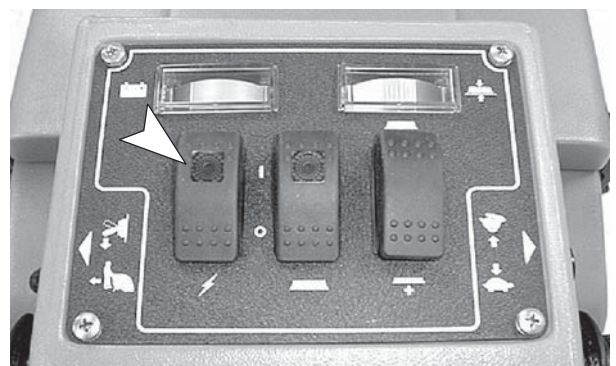

FIG. 10
1. Turn on key, if equipped, then turn on the main power switch (Figure 10).